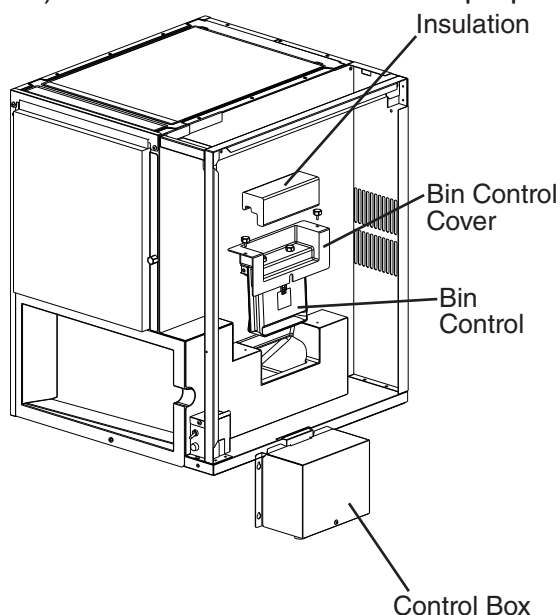

Fig. 6
- 2) Loosen the screws securing the control box, then lift the control box off and hang it from the base. See Fig. 6.